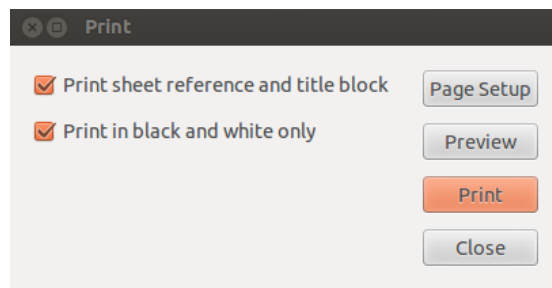

Figure 5.2: Print options
- (g) Print - Access to print menu (See Fig. 5.2).